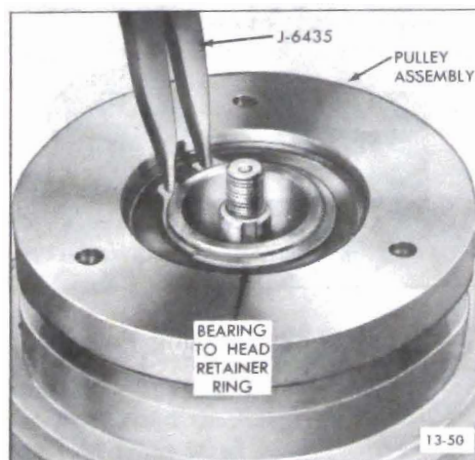

Figure 13-76 Removing or Installing Bearing to Head Retainer Ring
2. Using No. 26 Truarc pliers (J-6435) remove bearing to head retainer ring (see Figure 13-76).
5. Lock pulley assembly in position with bearing to head retainer ring (flat side of retainer ring downward) using No. 26 Truarc pliers (J-6435). See Figure 13-76.